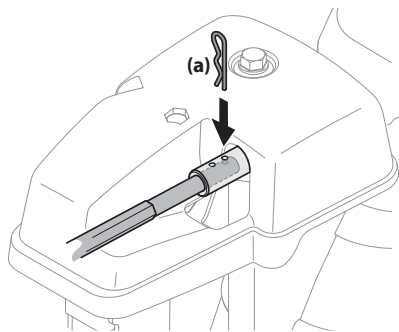

Figure 2-33
7. Push chute control rod toward control panel until hole in rod lines up with hole in chute control input closest to chute control head and insert hairpin clip (a) removed in Step 1. See Figure 2-33.